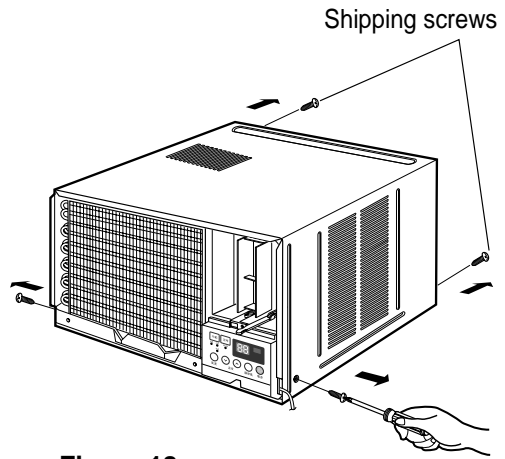

Figure 18
If the air conditioner is used in a hot and high humidity zone, exchange the ① HOLE RUBBER for the ② DRAIN PIPE. (See figure 17, figure 18.)